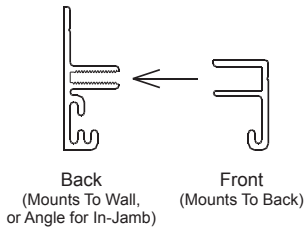

Figure 1a
- 1) Mounting Brackets (Front & Rear) See Figure 1a